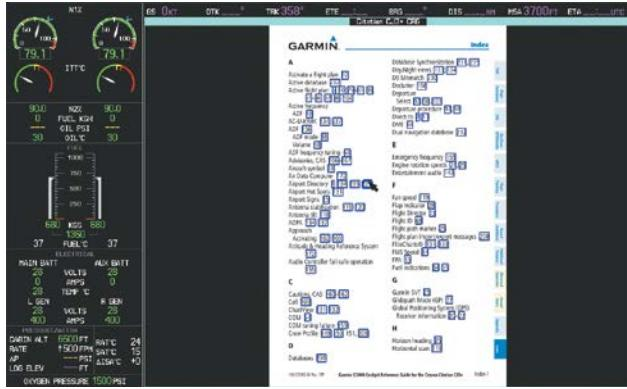

Figure 8-107 Link Selected
- 1) With the document displayed, press the Joystick. The Document Pointer Options Screen is now displayed on the Touchscreen Controller as shown in Figure 8-107. Also, a flashing pointer is shown on the document display as in Figure 8-107.
- 2) Move the Joystick, or move a finger across the Touchpad to move the pointer to the desired document link as in Figure 8-107.